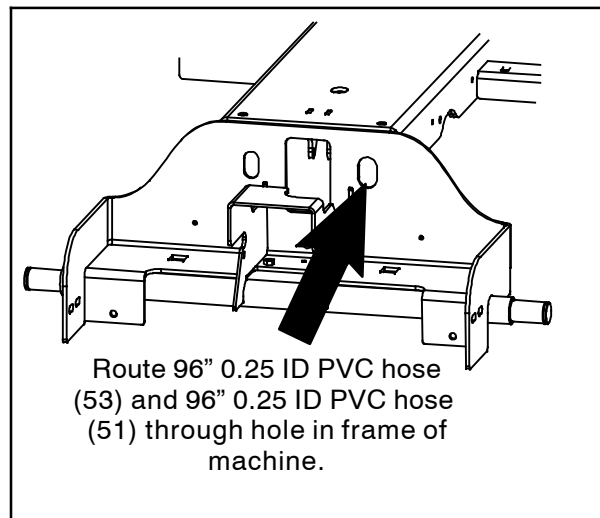

FIG. 15
- Route the 96" 0.25 ID PVC hose (53) and 96" 0.25 ID PVC hose (51) through the hole in the frame of the machine. (Fig. 15)